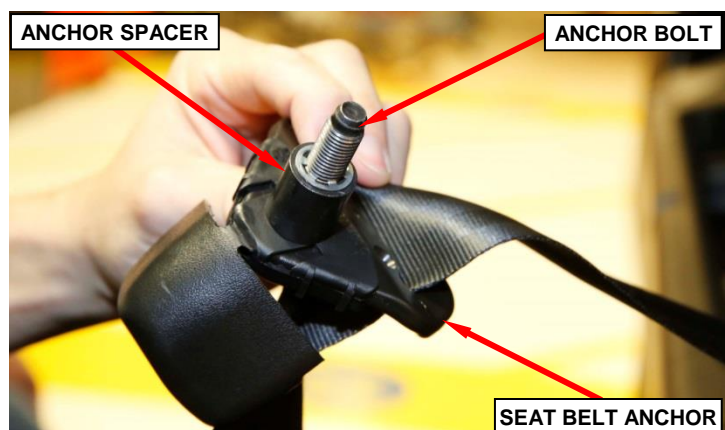

Figure 9 – Seat Belt Anchor Spacer
5. Ensure the black spacer remains on the seat belt anchor bolt (Figure 9).
44. Ensure the black spacer is on the left C-pillar upper seat belt anchor bolt (Figure 9).